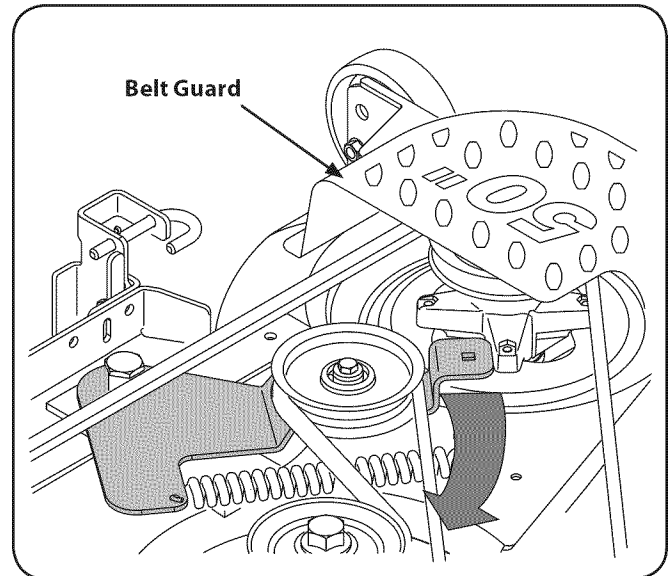

Figure 7-6
**Note:** If there is too much tension on the belt for it to be easily removed from the electric PTO clutch, carefully insert a  $\frac{3}{8}$ -inch drive ratchet wrench (set to *tighten*) into the square hole found in the left-hand deck idler bracket and pivot it toward the tractor's right side to relieve tension on the belt. See Fig. 7-6.
3. Remove the belt guards by removing the self-tapping screws that fasten them to the deck. See Fig. 7-6.